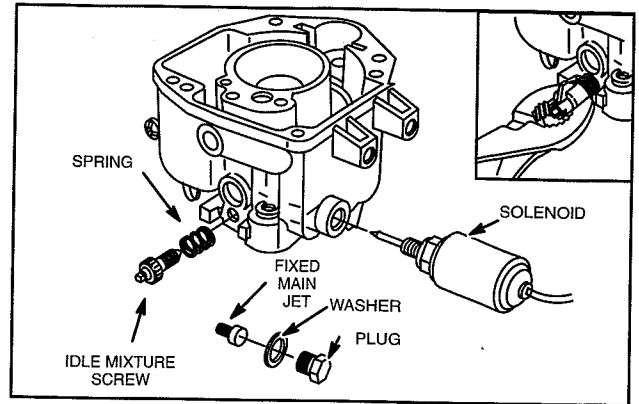

Fig. 81 – Remove Idle Mixture Screw And Main Jet
4. Remove idle mixture screw and spring, Fig. 81.